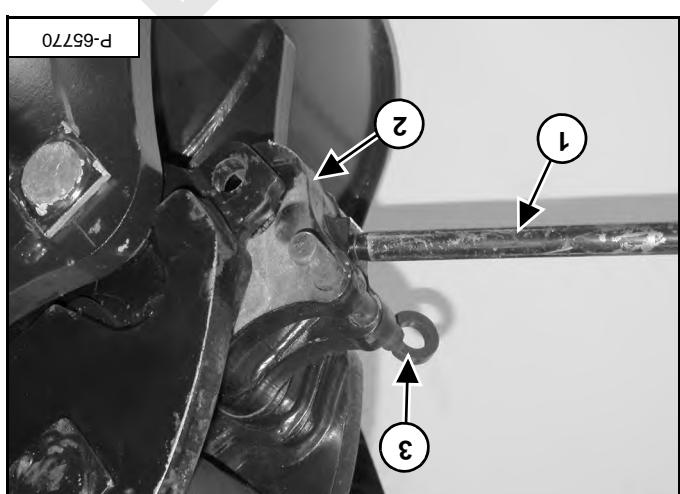

Figure 94
Remove the retainer pin and the locking pin (item 3) [Figure 94].
Reinsert the release bar (item 1) and rotate the locking hooks (item 2) [Figure 94] upward slightly.